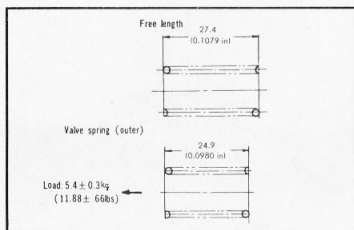

Figure 3-28. Outer valve spring
- (6) Outer valve spring (Fig. 3-28)